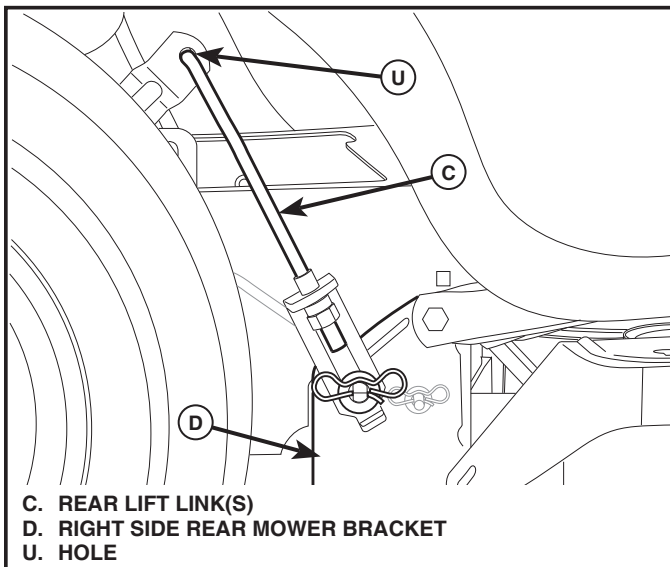

Fig. 11
7. ATTACH REAR LIFT LINKS (C) (See Fig. 11)
- Insert rod end of rear lift link (C) into hole (U) in tractor lift shaft suspension arm and pivot link down to mower.
- Lift rear corner of mower and position slot in link assembly over pin on rear mower bracket (D) and secure with large washer and large retainer spring.